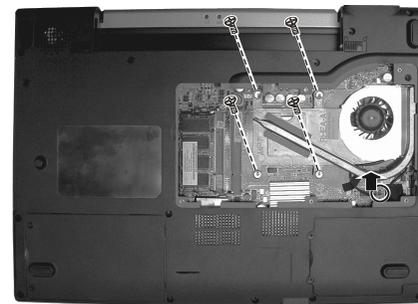

Figure 2-5 Free the heatsink
3. Remove four spring screws that secure the heatsink upon the CPU and disconnect the fan's power cord from system board. (Figure 2-5)